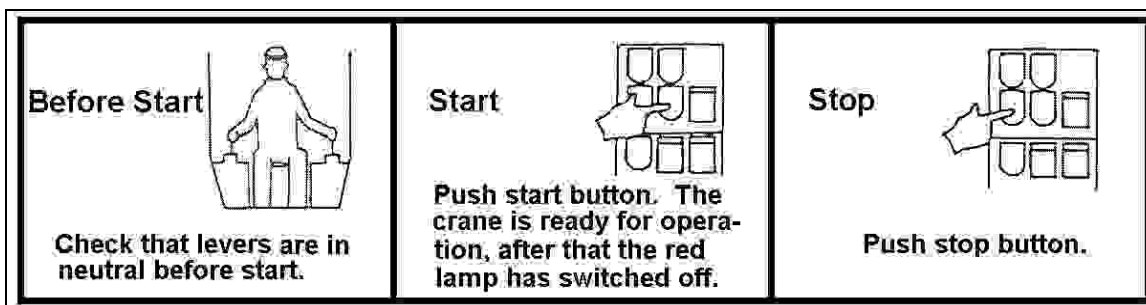

Figure 3-41. Pressing Start Button on Haggglunds Crane
- c. Press the START button to start the Haggglunds crane (see Figure 3-41).